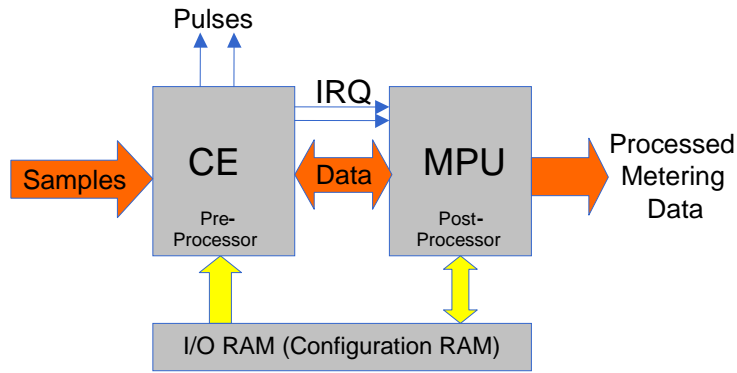

Figure 26: MPU/CE Data Flow
The data flow between the Compute Engine (CE) and the MPU is shown in Figure 26. In a typical application, the 32-bit CE sequentially processes the samples from the voltage inputs on pins IA, VA, IB and VB, performing calculations to measure active power (Wh), reactive power (VARh), A²h and V²h for four-quadrant metering. These measurements are then accessed by the MPU, processed further and output using the peripheral devices available to the MPU. Figure 26 illustrates the CE/MPU data flow.